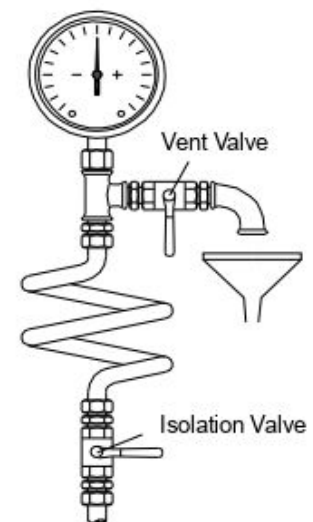

Fig. 7.
- Pressure and vacuum gauges must be properly anchored and connected at the measuring points located on the pump flanges by means of or on the pipes close to the flanges approximately 8 mm diameter tubing with pig tail configuration to lessen pressure fluctuation. For safety purposes isolating and vent valves should be fitted before the gages (**Fig. 7**).